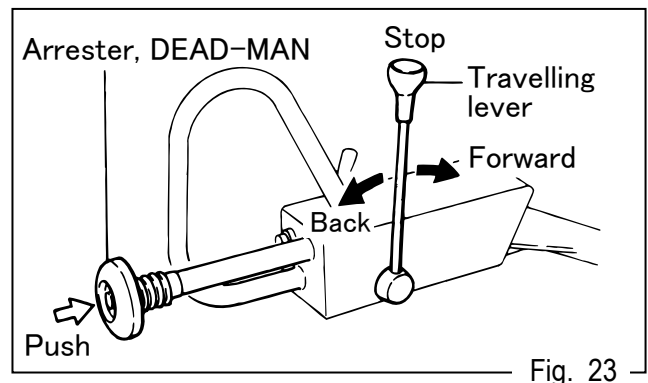

Fig. 23
- Pressing Arrester, DEAD-MAN provided while traveling in reverse, causes travel lever to return to neutral position to bring the machine to stop. (Fig.23)